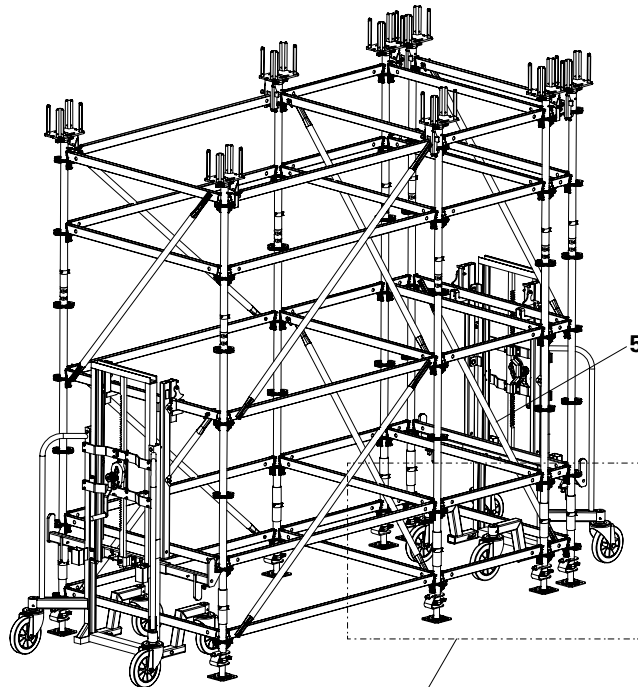

Fig. B1.06
- Check the clearance to the Ledger Braces (5)! (Fig. B1.06 – B1.07)